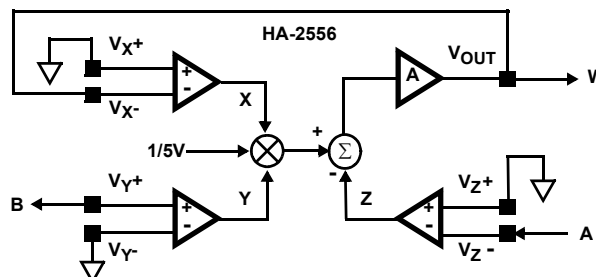

FIGURE 3. DIVIDER
Notice that the output (W) enters the equation in the feedback to the Z stage. The Balance Equation does not test for stability, so remember that you must provide negative feedback. In the multiplier configuration, the feedback path is connected to  $V_{Z+}$  input, not  $V_{Z-}$ . This is due to the inversion that takes place at the summing node just prior to the output amplifier. Feedback is not restricted to the Z stage, other feedback paths are possible as in the Divider Configuration shown in Figure 3.